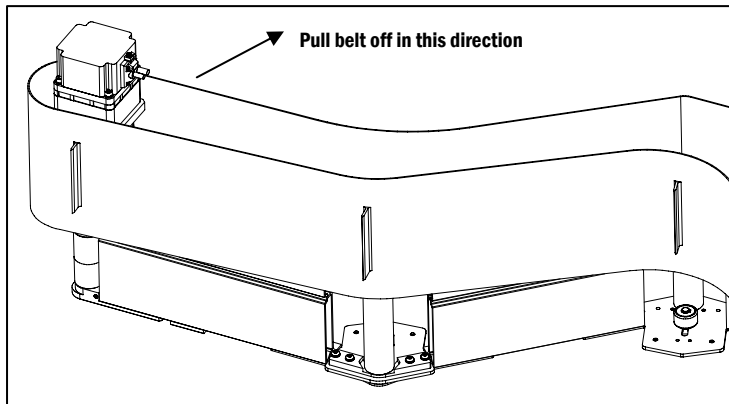

Figure 12
k. Starting at the drive end first, remove the belt from the conveyor by sliding the belt off to the drive side of the conveyor and pulling it around the drive mounting package (Figure 12).